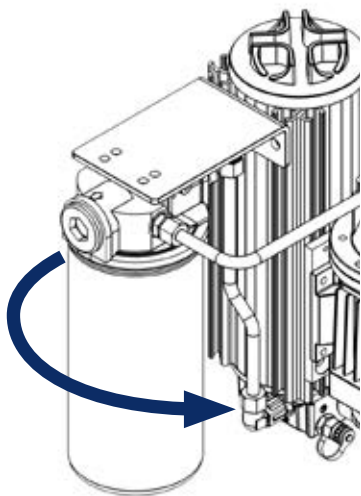

Fig. 26
- ▶ Close clockwise and tighten new watersorb element by hand, do not over tighten! (see Fig. 26)